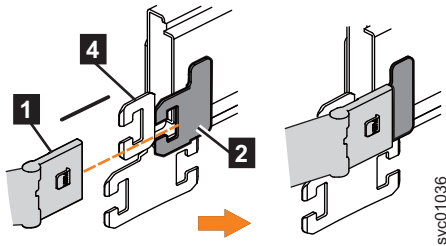

Figure 100. Install the inner connector of the upper CMA to the inner member of the support rail
2. Install the inner connector of the upper CMA assembly (**1**) to the inner member of the left support rail (**2**), as shown in Figure 100 from the outer and inner support rails.